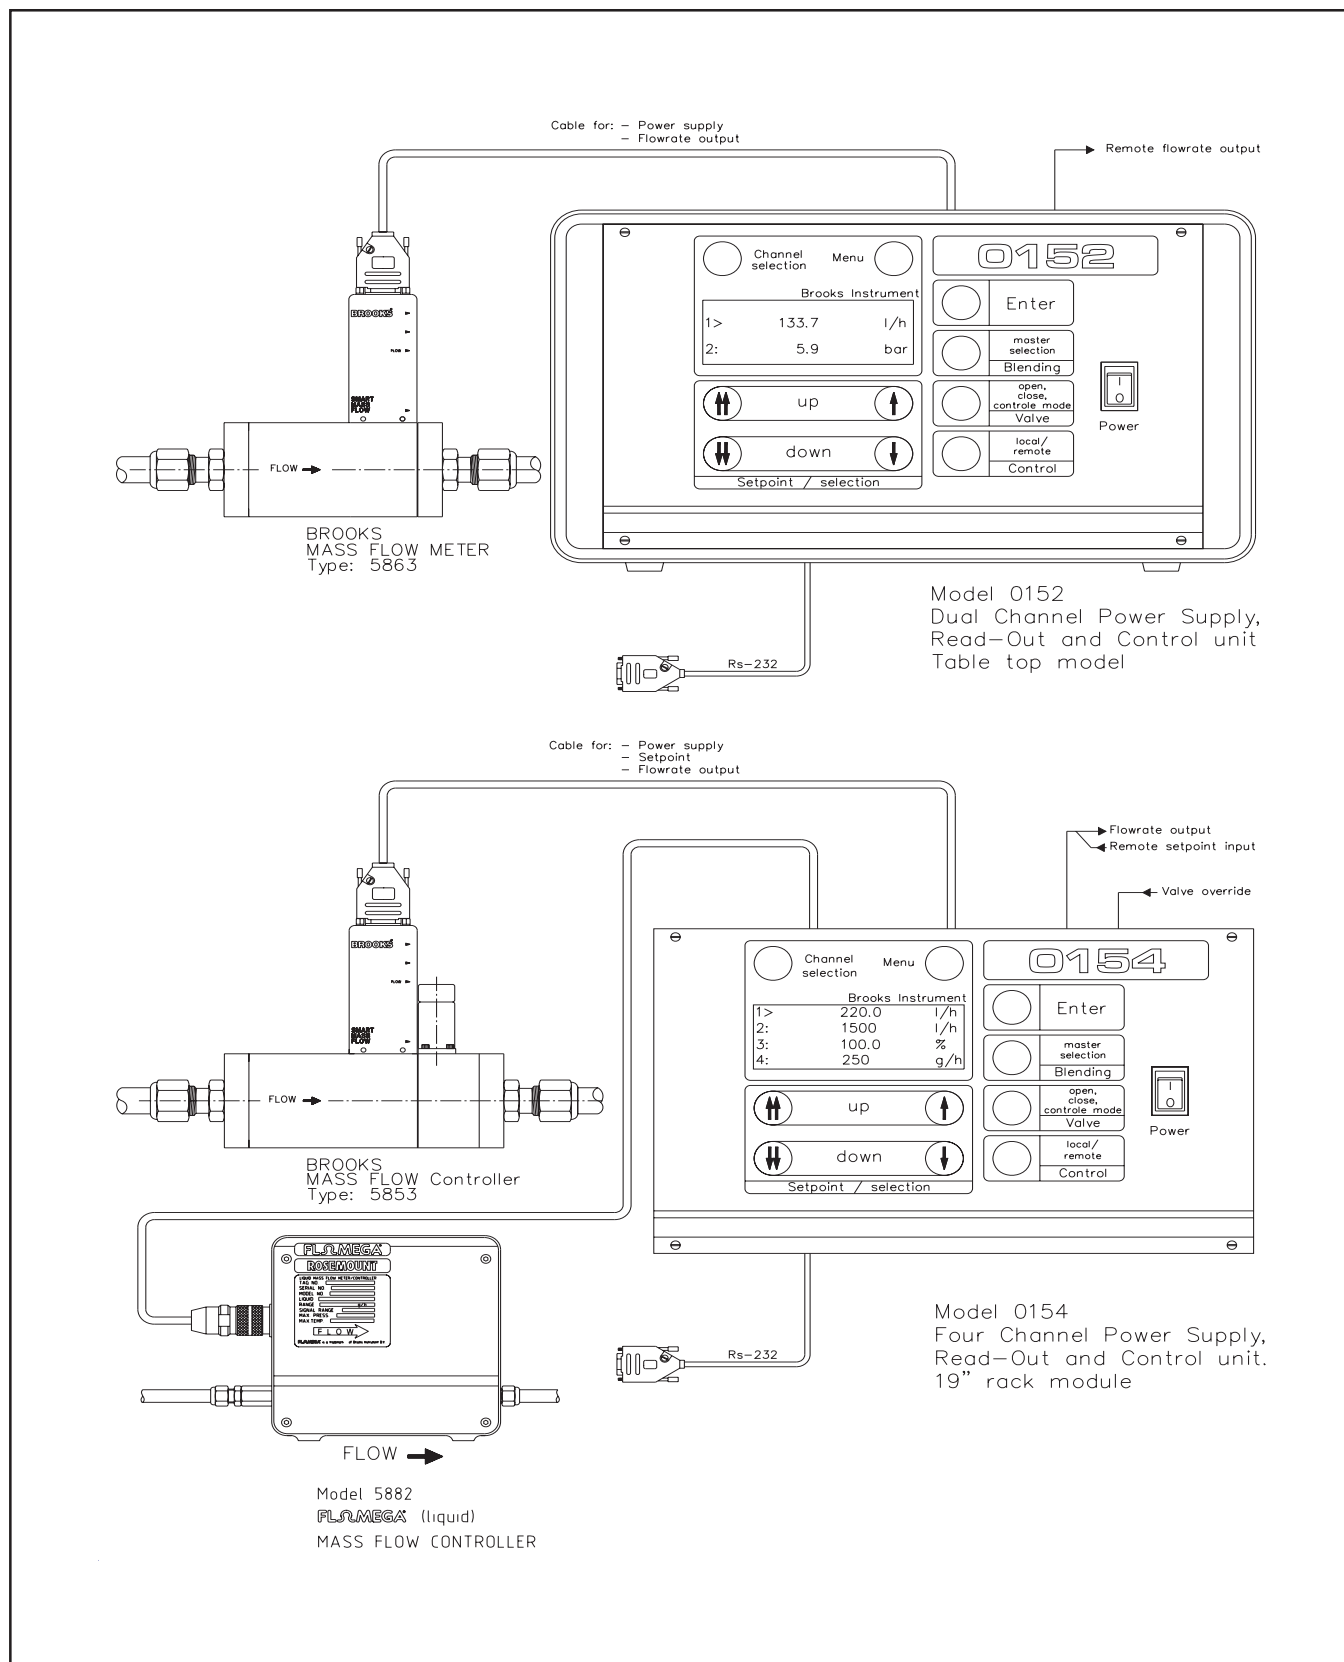

Figure 1-6 Electrical Configuration
**Electrical Configuration**, (Refer to Figure 1-6).